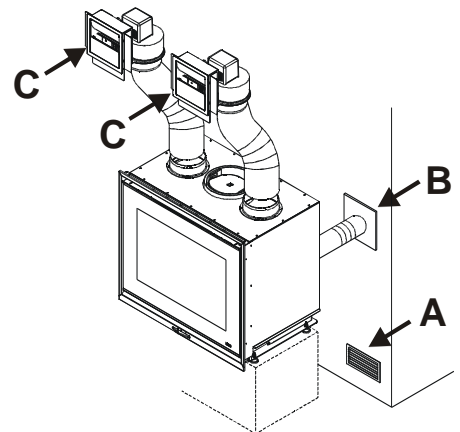

Figure 3 – Forced convection
**This operation is necessary to ensure proper operation of the COMFORT AIR KIT.** If the combustion air intake is not connected directly to the an external air intake (**B**), it will be obligatory to provide an air intake (**A**) that has a free passage of not less than 150 cm2 so that natural fresh air flows into the room of installation (preferably inside the cladding).Figure 3